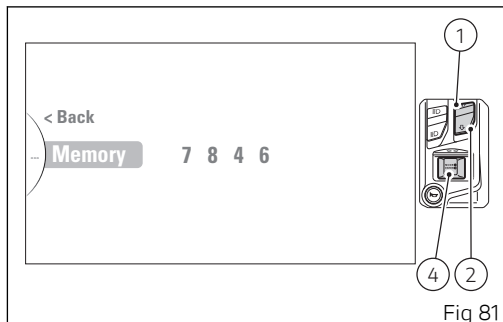

Fig 81
To memorize the entered code, highlight the "Memory" indication (orange) and press button (4) (Fig 81).